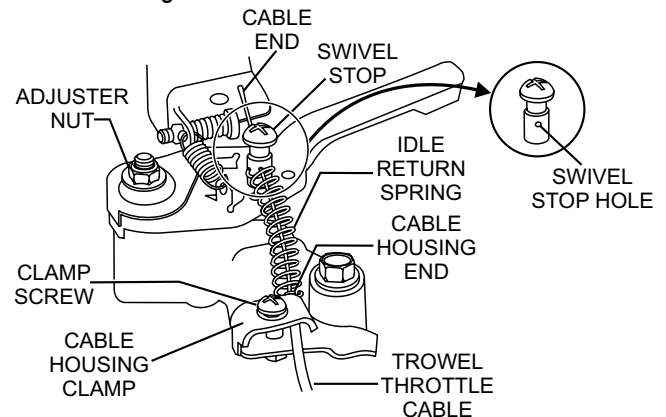

Figure 6. Throttle Cable Installation (Engine)
3. Connect the **trowel throttle cable** to the engine throttle linkage (Figure 6). There should be a piece of wire installed on the trowel to show where to route the throttle cable.